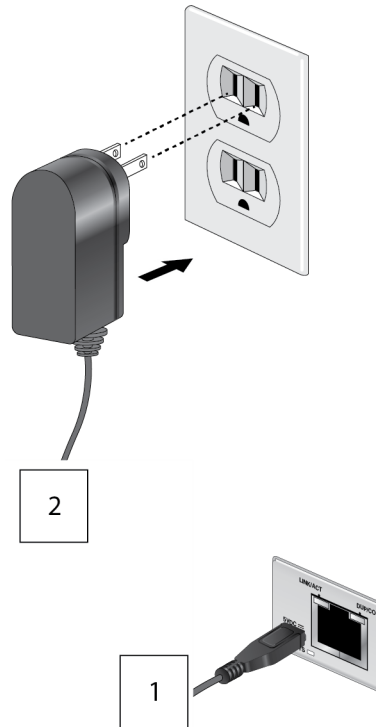

Figure 25. Connecting Power via Power Adapter
- Attach the other end of the USB cable to the USB port on the power adapter, then plug the power adapter to a power outlet, as shown in Figure 25 on page 48. Refer to “Power Specifications” on page 55 for power requirements.